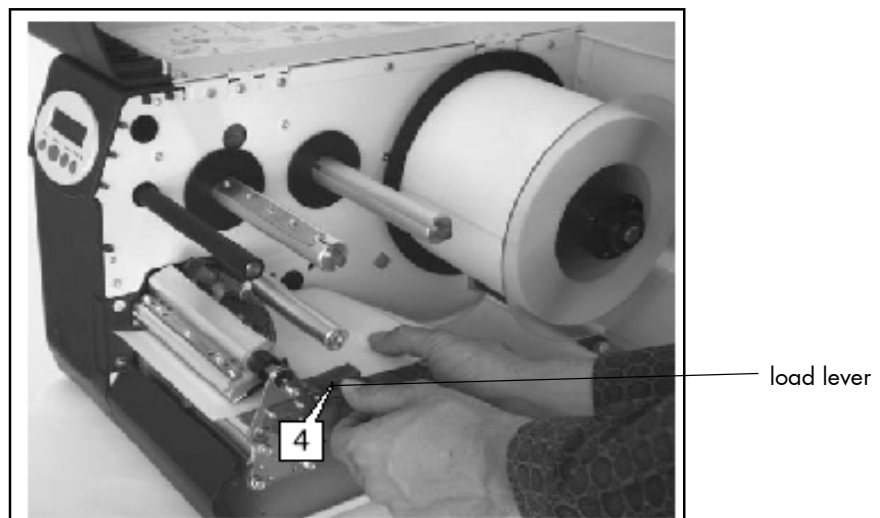

Fig. 4.2.1.d Inserting the material
10. Arrange the material so that it is drawn in straight. Position the contact rollers of the print unit, while pressing down the load lever, so that both rollers (5) sit symmetrically on the material. (Notice: in figure 4.2.1.e the printhead has been removed to provide a clearer view)